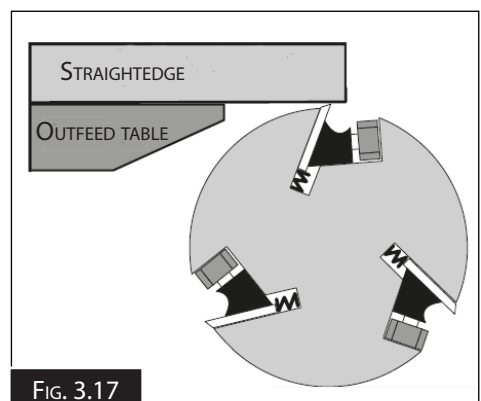

FIG. 3.17
3. Place a straightedge on the outfeed table so it extends over the cutterhead. (Fig.3.17)